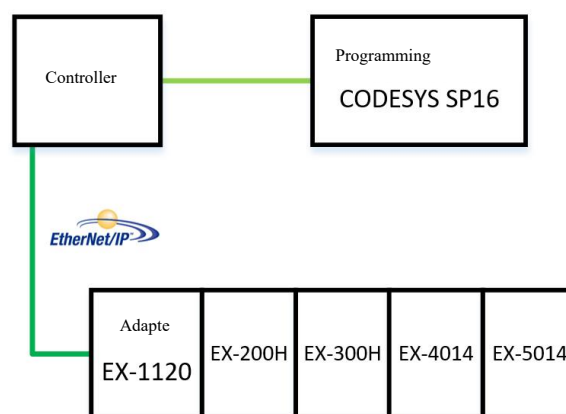

Figure 5-7-12 Communication connection diagram
1. Communication connection diagram, as shown in Figure 5-7-12